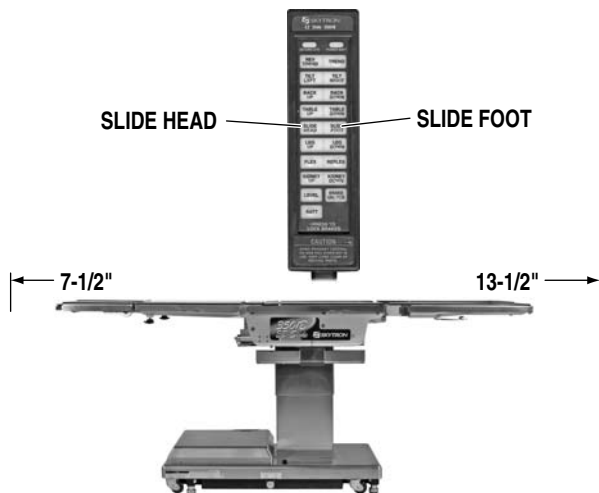

Figure 2-10. Top Slide
**f. Top Slide.** To move the table top toward the head end, press the SLIDE HEAD button. From center position, the top will slide up to 7-1/2". See figure 2-10.